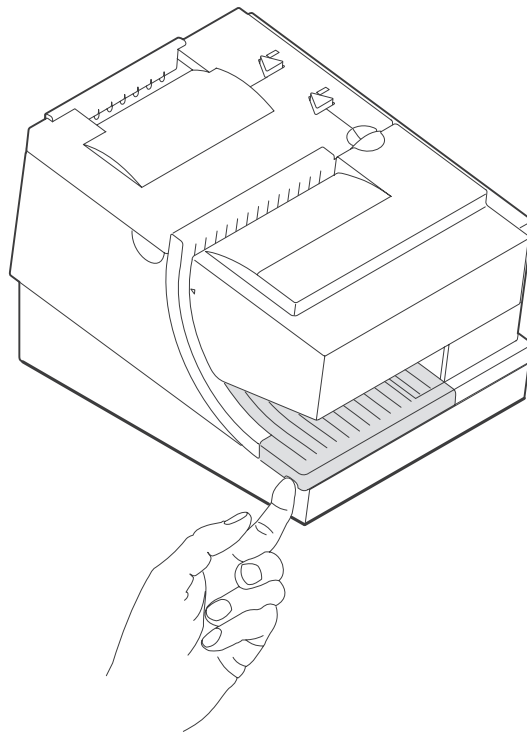

Figure 28. Removing the Lower Document Insert (DI) Cover
1. Lift up the left front corner of the lower document insert cover and pull the cover from the printer. (See Figure 28.)